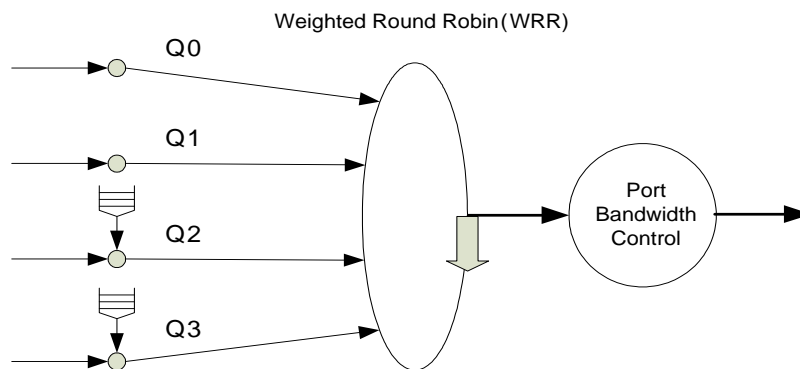

Figure 14. Packet-Scheduling Diagram
- Type I leaky bucket, which specifies the average rate of one queue (see Figure 14; only Q2 and Q3 have leaky bucket, Q0 and Q1 do not). The queue rate can be configured from 0kbps to the line rate in steps of 64kbps
In addition, the RTL8305NB-VB can select one of the two sets of packet-scheduling configurations according to the packet-scheduling mode. Figure 14 shows the RTL8305NB-VB packet-scheduling diagram.